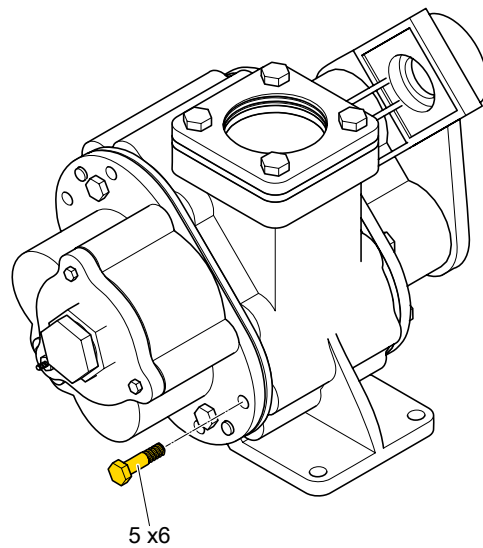

Figure 5: Bolts
5. Reinstall the Pump Valve. **NOTE:** Ensure that all Bolts [5] are tightened to 25 N·m. (Fig. 5)